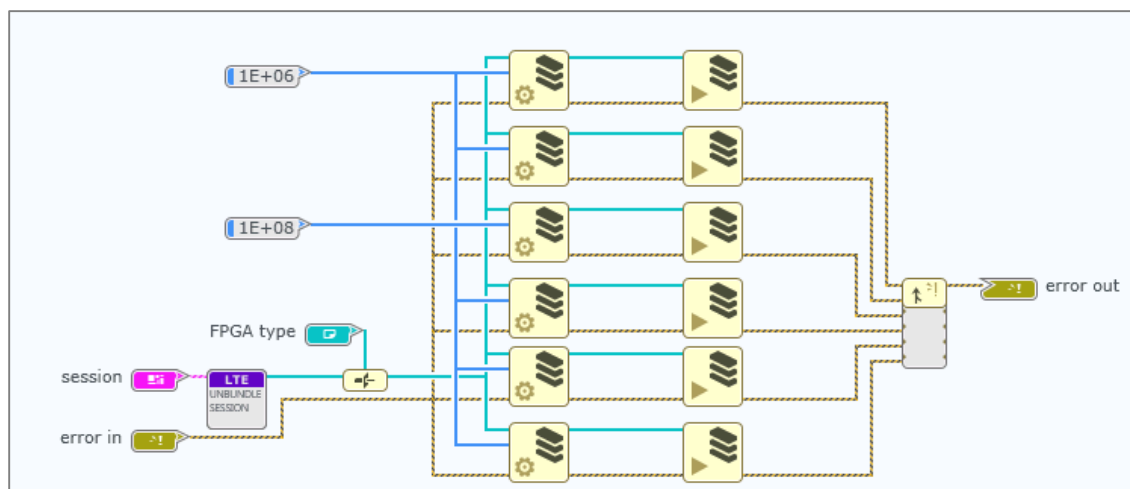

Figure 39 – "LTE DL RX FIFO Initialization.gvi" (original file)
1. Open the affected VI. In this example, we are demonstrating changes needed for the "LTE DL RX FIFO Initialization.gvi" as shown in Figure 39.